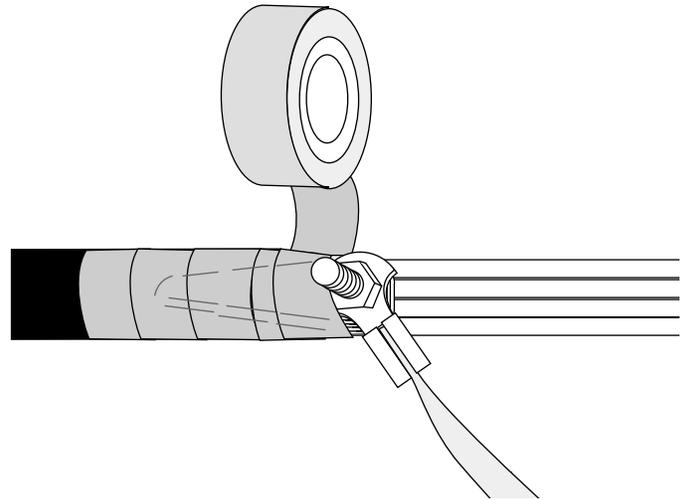

Figure 32
- Cover the grounding clamp and split portion of the sheath with vinyl tape (Figure 32).